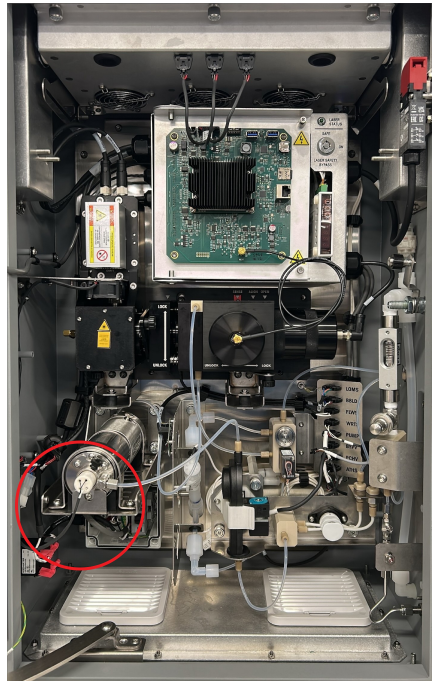

Figure 5: Main Power Box
- Open the Main Power box as shown in Figure 5 and follow the instructions:
- As shown in the left side view provided in the installation diagram and Figure 5 there is a bulkhead cable gland located on the left-hand side of the analyzer enclosure labeled “AC POWER IN” to allow for the passage of the AC power cable (not provided with analyzer).